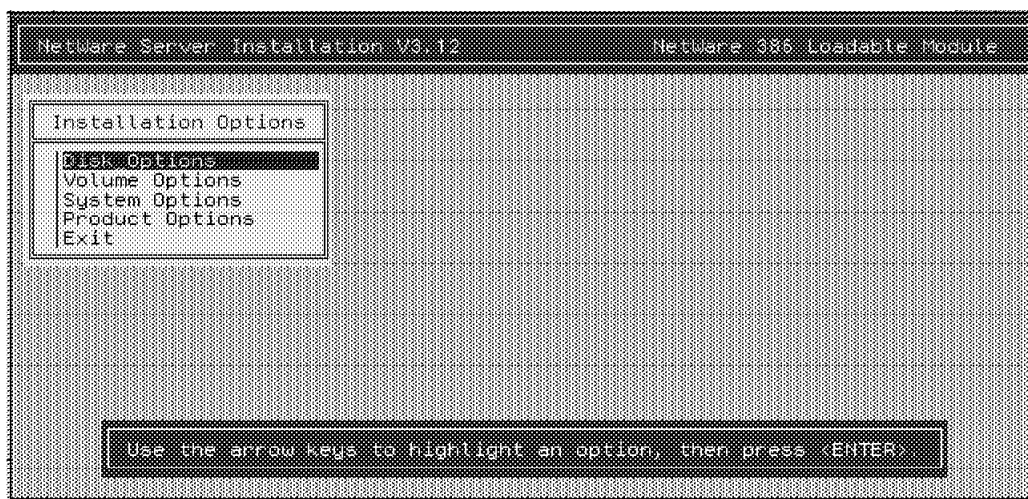

Figure 82. NetWare V3.12 Installation - Main Menu
19. Type `LOAD INSTALL.NLM` and press Enter. You will see a screen like the one in Figure 82.